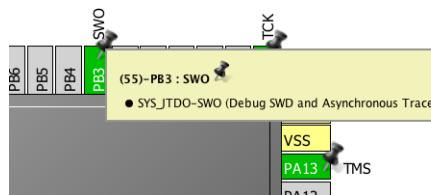

Figure 5: Contextual tool-tips help understanding signal usage
A contextual tool-tip is showed moving the mouse pointer over the MCU pins (see Figure 5). For example, contextual tool-tip for pin PB3 says to us that the signal is mapped to *Serial Wire Debug* (SWD) interface and it acts as *Serial Wire Output* (SWO) pin. Moreover, the pin number (55) is also shown.